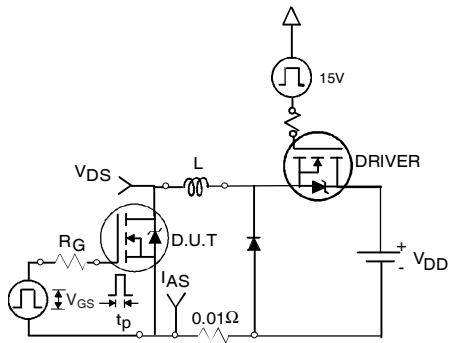

Fig 12a. Unclamped Inductive Test Circuit
- ③ Pulse width $\leq 1.0\text{ms}$; duty cycle $\leq 2\%$.
- ④ $C_{oss\text{ eff.}}$ is a fixed capacitance that gives the same charging time as C_{oss} while V_{DS} is rising from 0 to 80% V_{DSS} .
- ⑤ Limited by T_{Jmax} , see Fig.12a, 12b, 15, 16 for typical repetitive avalanche performance.
- ⑥ This value determined from sample failure population, starting $T_J = 25^\circ\text{C}$, $L = 0.08\text{mH}$
3. Equation below based on circuit and waveforms shown in Figures 12a, 12b.